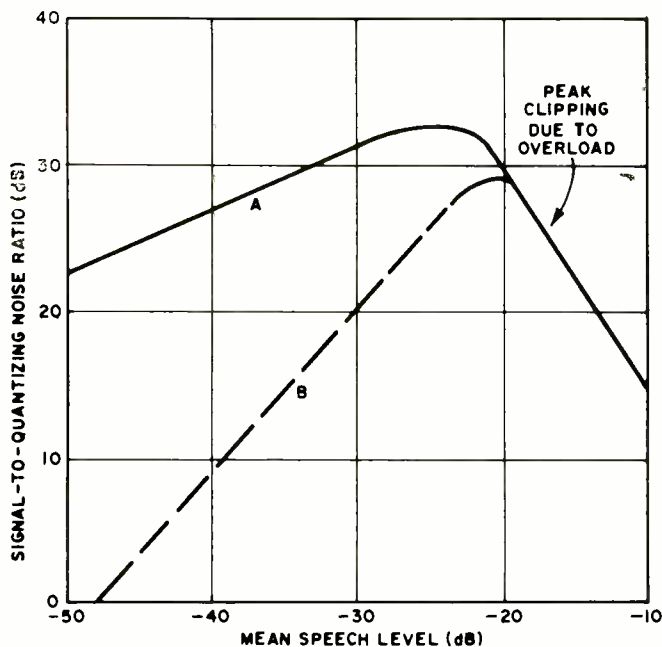

Fig. 6. Signal-to-quantizing noise ratio vs input signal level for 7-bit code using (A) logarithmic and (B) linear coding.
Nevertheless, a 4-bit code group cannot handle the full range of positive and negative amplitudes, and is described here only for reasons of clarity. With this particular code, very weak signals would be completely lost while strong signals would be severely clipped. It has been empirically determined by listening tests that approximately 2^{10} , or 1024 linear quantum steps are required to adequately cover the dynamic speech range. This would call for a 10-bit code which, unfortunately, would be impractical for processing speech signals. However, by employing either instantaneous compression or nonlinear quantizing, this can be reduced to a 7-bit code representing 2^7 , or 128 quantum steps. Fig. 6 shows the variations of signal-to-noise ratio with input level for a 7-bit code, and clearly indicates the advantage of logarithmic (A) over linear (B) encoding.
Suppose, for example, a display buffer delivers a 21-bit word to the controller. As shown in Fig. 6, 10 of these bits might be for the X-axis coordinates, 10 for the Y-axis coordinates, and 1 bit for the CRT digital unblanking circuit.